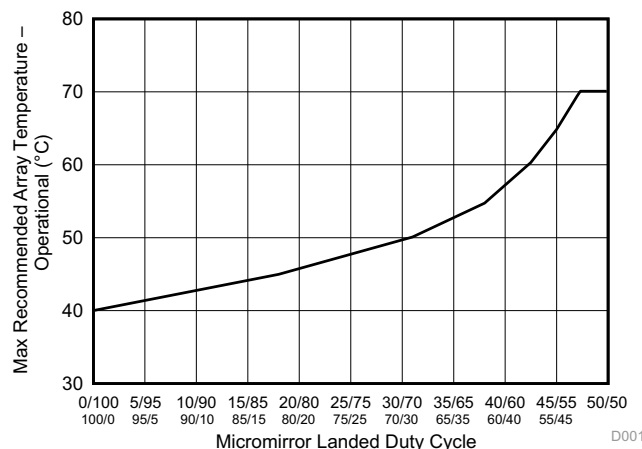

Figure 1. Maximum Recommended Array Temperature – Derating Curve
- (11) Per Figure 1, the maximum operational array temperature should be derated based on the micromirror landed duty cycle that the DMD experiences in the end application. Refer to Micromirror Landed-On/Landed-Off Duty Cycle for a definition of micromirror landed duty cycle.
- (12) Long-term is defined as the usable life of the device.